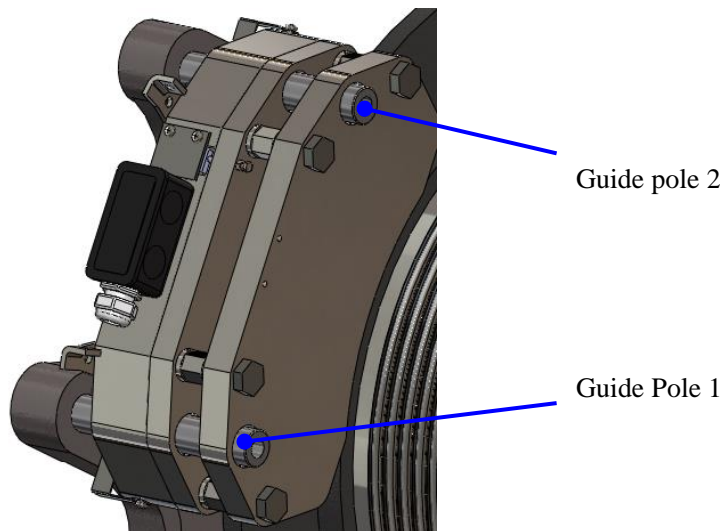

Figure 29: Guide pole installation
2. Clean the guide pole 1 and 2, and then install them using a hammer in the brake assembly; then close the brake. See Figure 29.